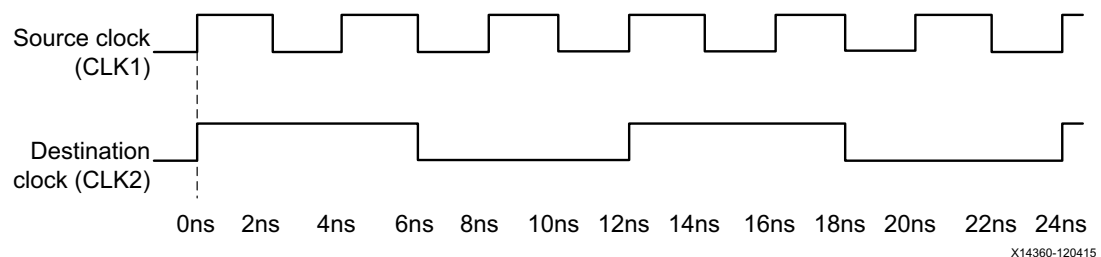

Figure 5-21: Multicycles Between FAST-to-SLOW Clocks
In the next example, the launch clock CLK1 is the fast clock. The capture clock CLK2 is the slow clock. Assume that CLK1 is three (3) times the frequency of CLK2. See Figure 5-21.